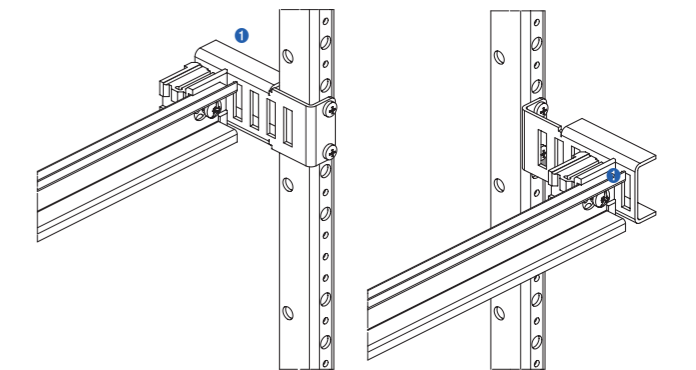

Fig. 6/7: DIN support rails can be brought down in steps of 12 mm
**Drop-down shackle (Fig. 6 and 7)**